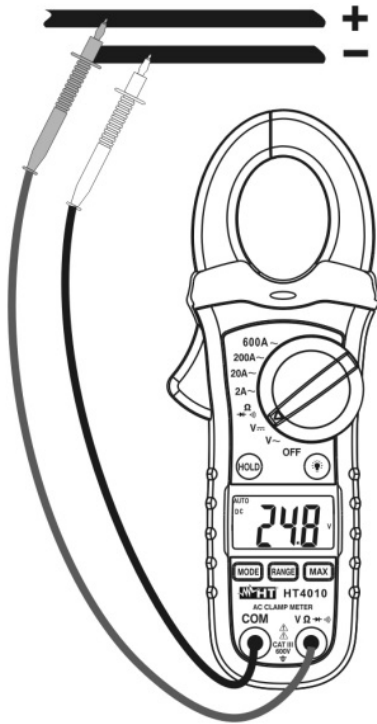

Fig. 2: Taking DC voltage measurement
4. Connect the two long ends of test leads to the desired circuit (see Fig. 2) then reading will be displayed
6. The “-” symbol at display means that the voltage have an opposite sign respect the connection of Fig. 2)